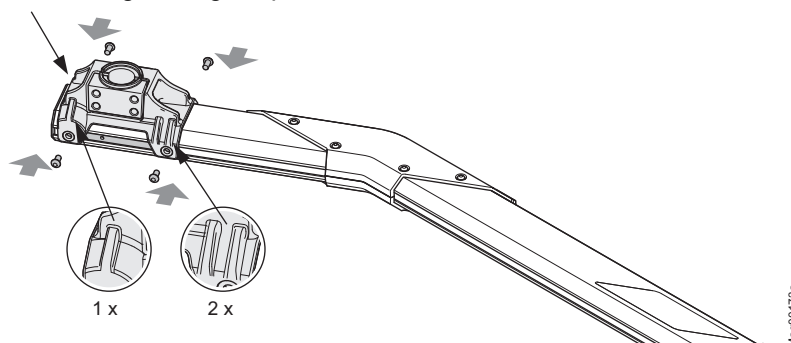

Fig. 28: Installing standard Vario-flange
18. Attach the flange on the other side of the barrier boom. Observe position of the two slot nuts and the additional sheet. The shorter protrusion of the flange must point towards the barrier boom end. → See page 70, Fig. 28.